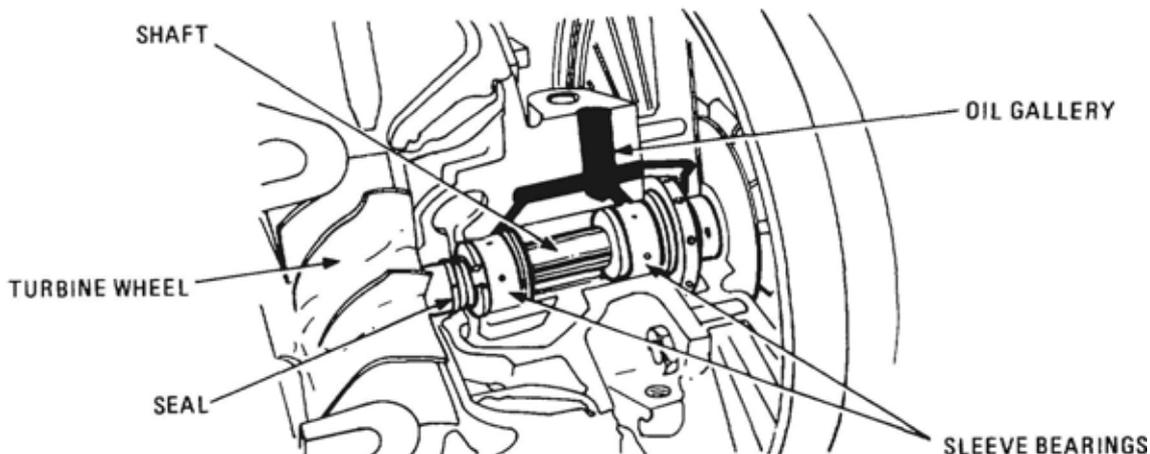

Figure 36 Sectional View of Bearing Housing
51. The turbine wheel and shaft are manufactured in one piece with the shaft mounted in sleeve type bearings located in the bearing housing. These bearings are pressure lubricated and cooled by oil from the engine lubricating system. Piston ring type seals are used at each end of the shaft to effectively contain the oil to the bearing housing (Figure 36).